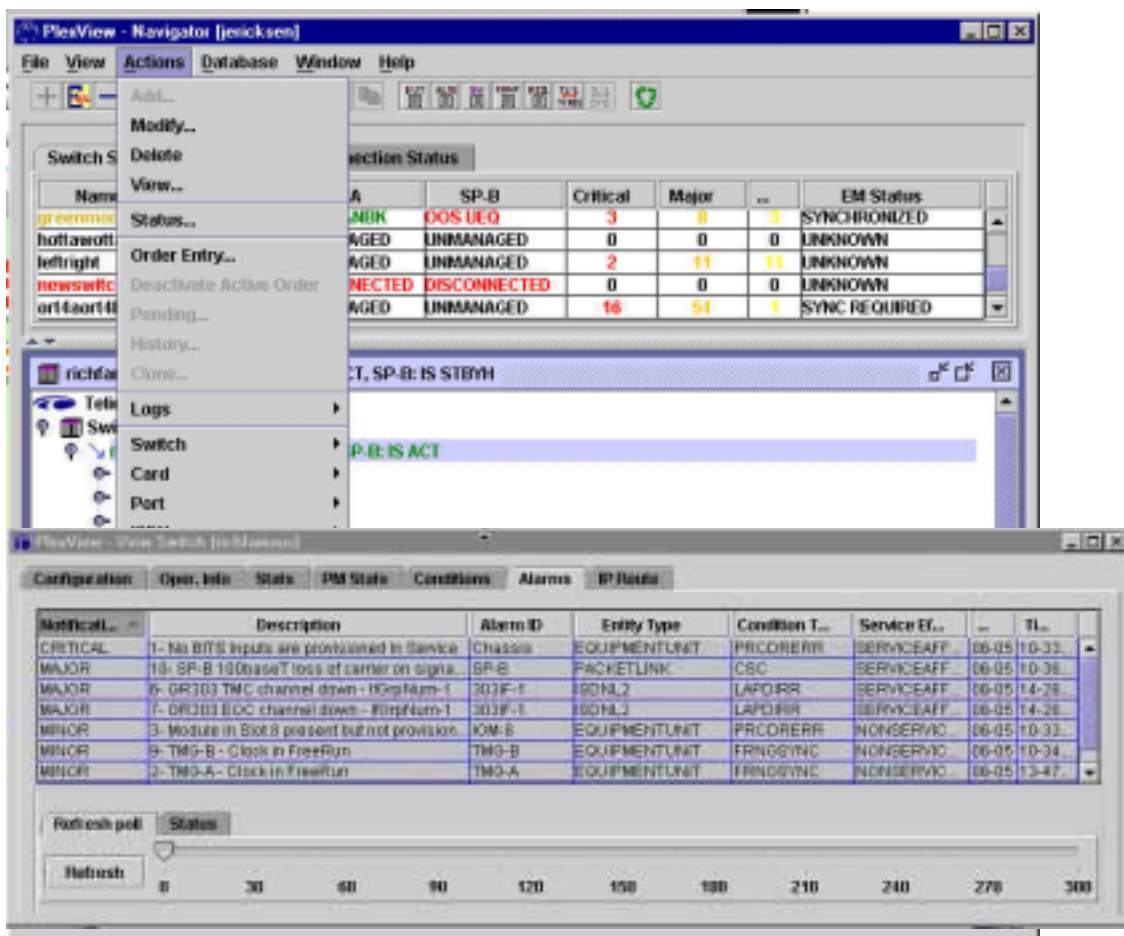

Figure 5. Retrieving Alarms
28. Select the switch for which you will be retrieving alarms. In the toolbar, select *Actions*, then *View* and then *Alarms*. See Figure 5.